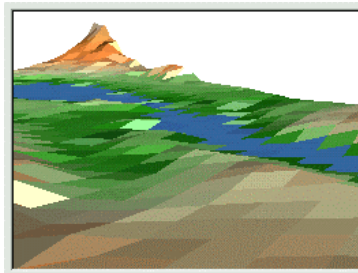

Figure 14.10. **Flat** assigns one colour to each cell.
- b) **Flat** assigns one colour to each grid cell during the rendering process (see Figure 14.10).